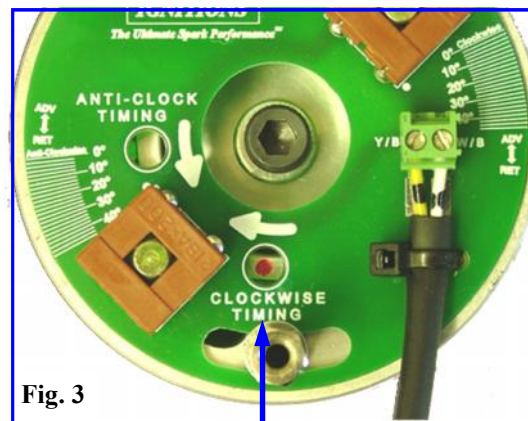

Fig. 3
11. Slacken the centre bolt (1/4" UNF) using a 3/16" hex key and position the rotor until one of the red indicator marks can be seen through the appropriate static timing hole (clockwise for most machines) in the trigger plate, with the plate positioned midway on its adjustment slots. **See figs. 3/4 on page 9.** [The magnetic rotor centre thread (metric M8) is provided for attaching a puller, if the rotor should need to be removed for engine servicing, etc.]